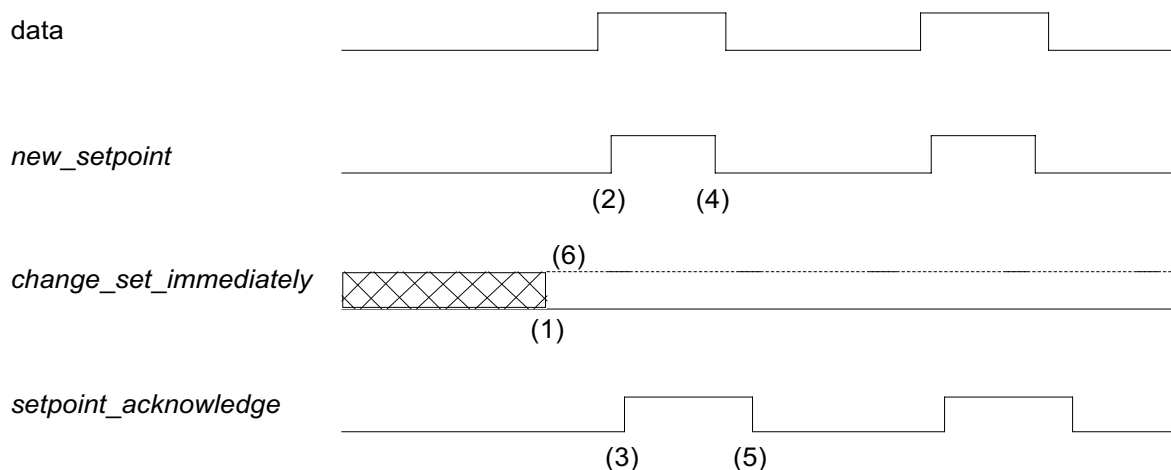
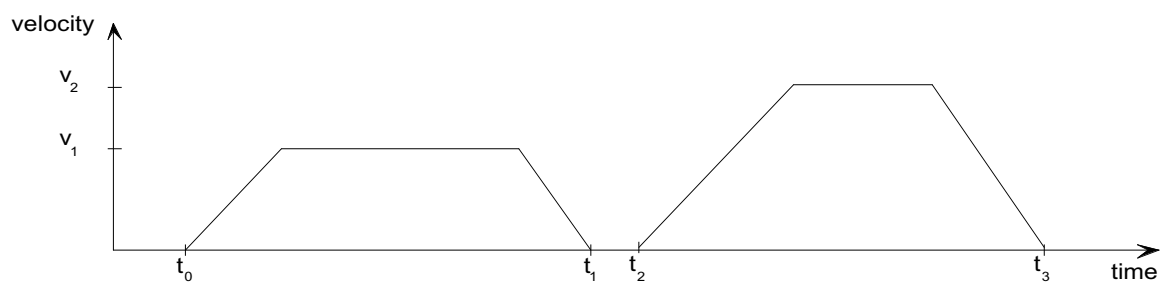
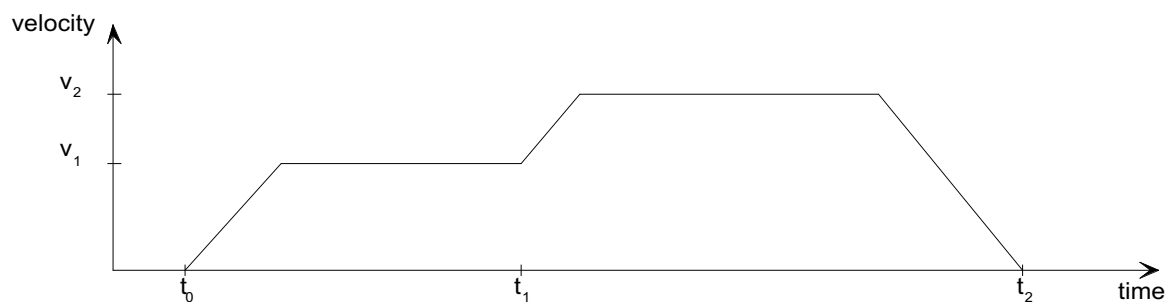

Figure 17: Set-point transmission from a host computer
Figure 18: Single set-point
Figure 19: Change set immediately
Figure 17, Figure 18 and Figure 19 show the difference between the "set of set-points" mode and the "single set-point" mode. The initial status of the bit '*change set immediately*' in the *controlword* determines which mode is used. To keep simple these examples, only trapezoidal moves are used.
If the bit '*change set immediately*' is "0" (continuously drawn line in Figure 17) a single set-point is expected by the drive (1). After data is applied to the drive, a host signals that the data is valid by changing the bit '*new set-point*' to "1" in the *controlword* (2). The drive responds with '*set-point acknowledge*' set to "1" in the *statusword* (3) after it recognized and buffered the new valid data. Now the host may release '*new set-point*' (4) and afterwards the drive signals with '*set-point acknowledge*' equal "0" its ability to accept new data again (5). In Figure 18 this mechanism results in a velocity of zero after ramping down in order to reach a *target position* x_1 at t_1 . After signaling to the host, that the set-point is reached like described above, the next *target position* x_2 is processed at t_2 and reached at t_3 .
If the bit 'change set immediately' is "1" (dashed line in Figure 17) the new target position will be active immediately. In Figure 19 the drive receives the first *target position* at t_0 . At the time point t_1 the drive receives a second *target position*. The drive readapts the actual move to the new target position immediately.